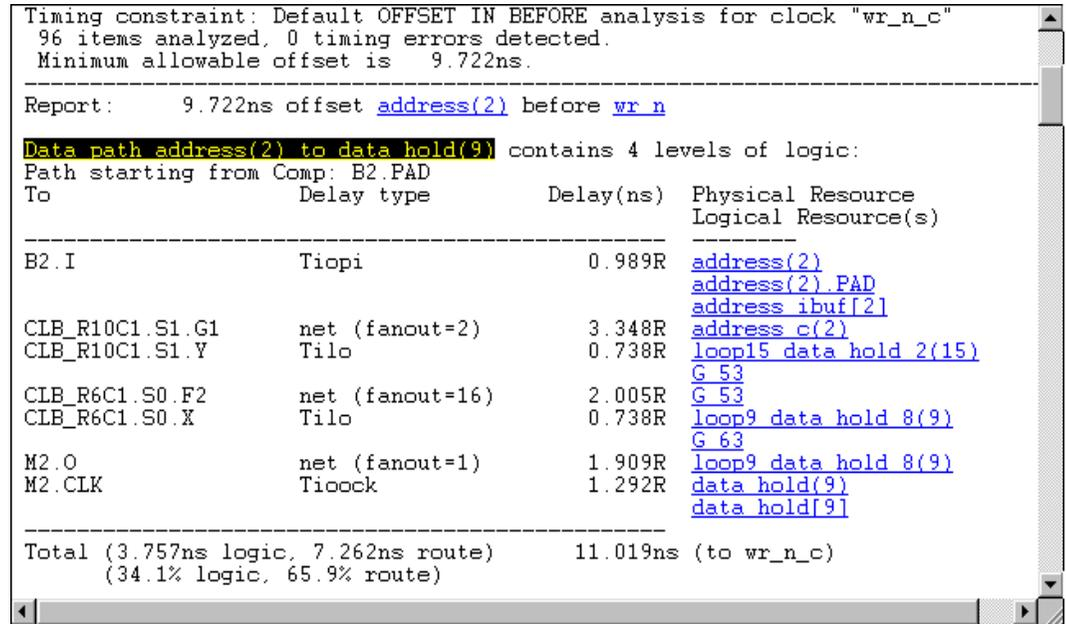

Figure 9: Path Selected to Cross Probe to Synplify Schematic Window
5. Display the XML file as described in **Displaying the Navigable Timing Report for Timing Cross Probing**, page 2. The timing report in the Timing Analyzer window will show navigable paths and instances as shown in **Figure 9**